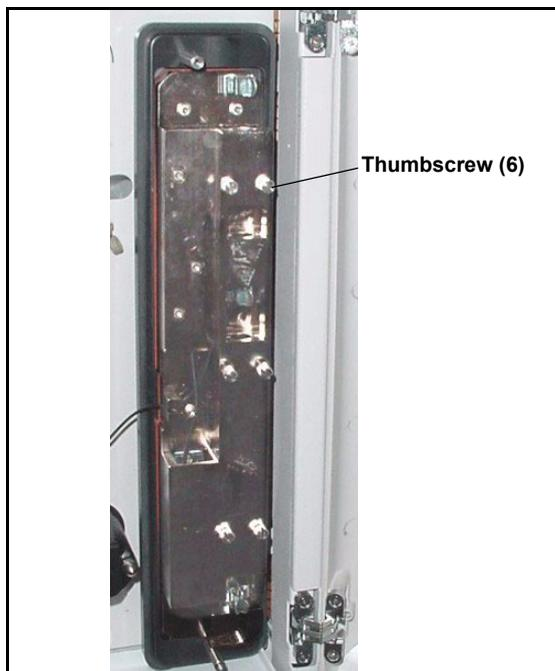

Figure 18. ICS-1500 Column Heater Cover Removed
4. Unscrew the six thumbscrews on the top metal plate (see Figure 18) and remove the plate.